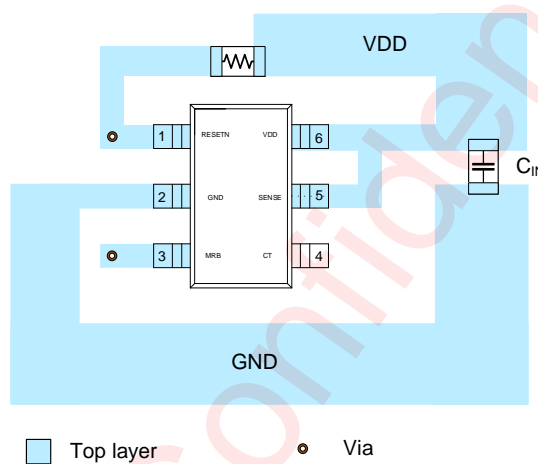

Figure 12 Layout example for a 20ms delay
3. The layout example in Figure 12 shows how the AWS703808 is laid out on a printed circuit board (PCB) for a 20ms delay.